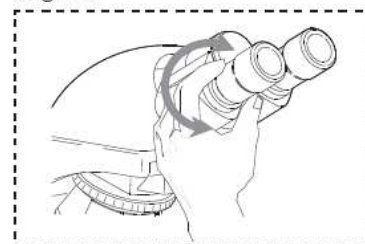

Fig. 12
b) Adjusting the Diopter. (Fig.12)